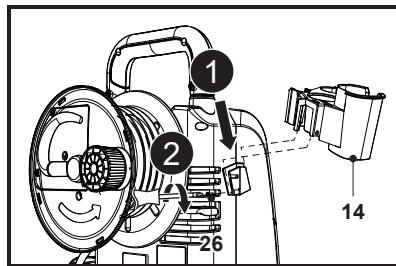

Fig. 1a
1. Slide the suspension bracket (14) onto its rest and align the mounting hole, then use a suitable cross-head screwdriver (not supplied) to secure the connection with a screw (ST3.5 x 13) (26) (Fig. 1a).